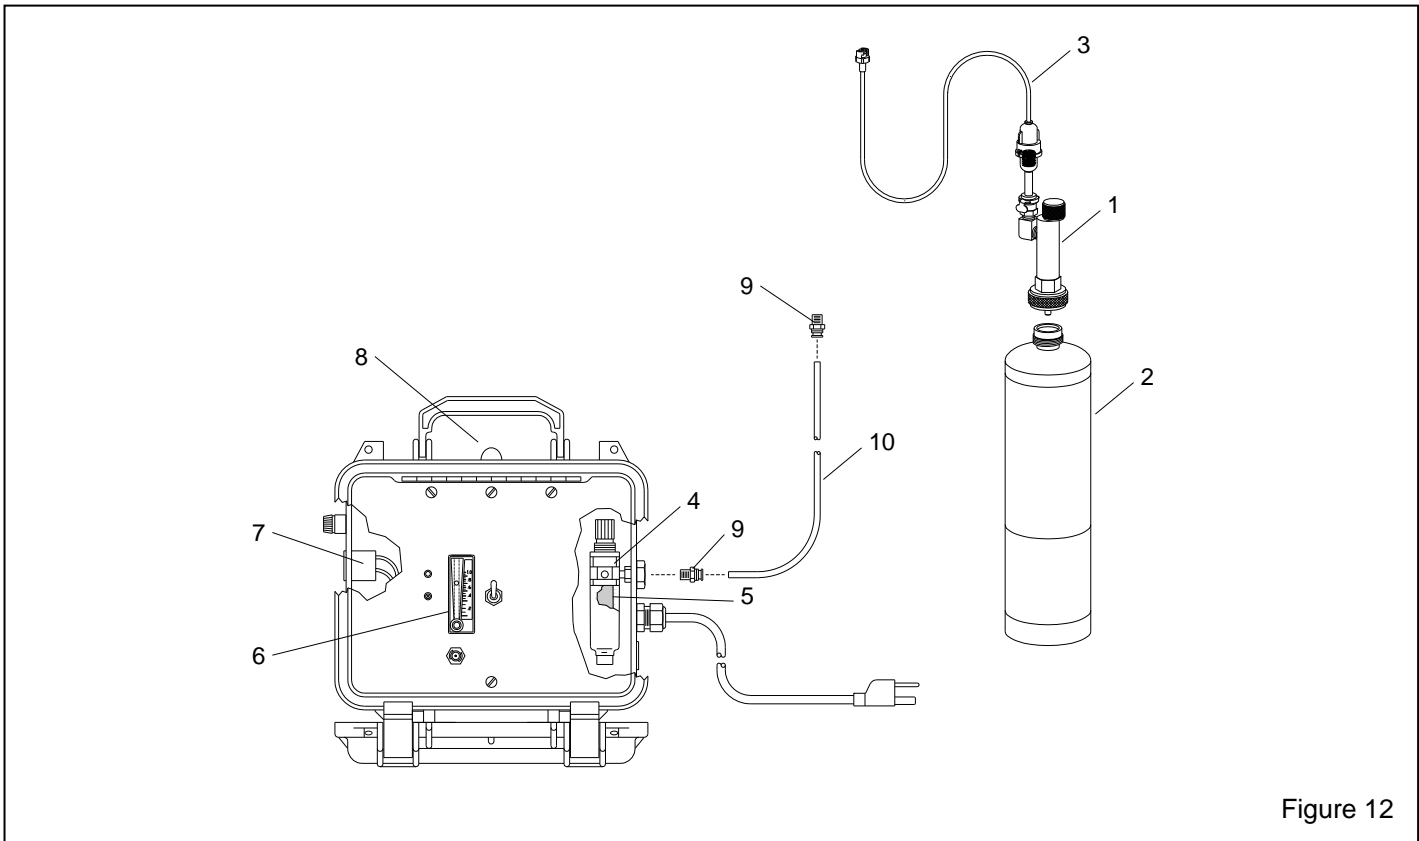

Figure 12
8.2 Replacement Parts – Figure 12